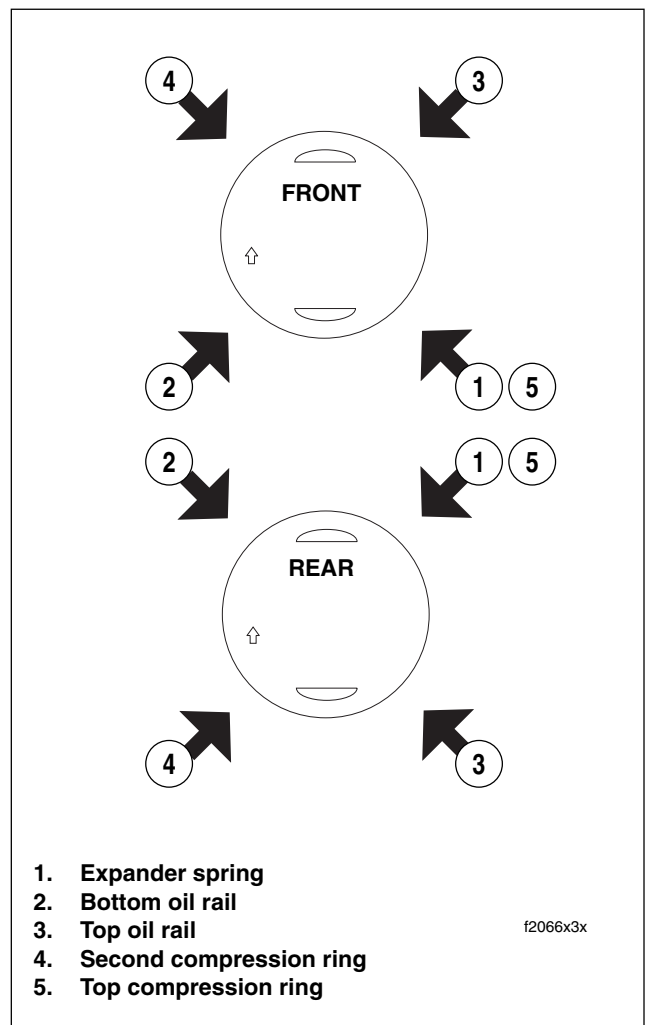

Figure 3-90. Piston Ring Gap Alignment
- f. Verify that the ring gaps are still properly staggered. See Figure 3-90.